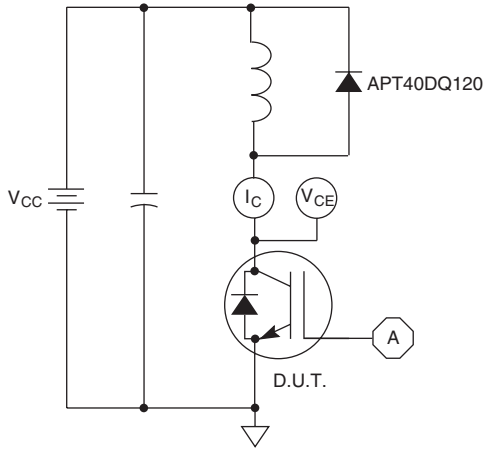

Figure 21, Inductive Switching Test Circuit
① Repetitive Rating: Pulse width limited by maximum junction temperature.
② For Combi devices, I_{ces} includes both IGBT and FRED leakages
③ See MIL-STD-750 Method 3471.
④ E_{on1} is the clamped inductive turn-on energy of the IGBT only, without the effect of a commutating diode reverse recovery current adding to the IGBT turn-on loss. Tested in inductive switching test circuit shown in figure 21, but with a Silicon Carbide diode.
⑤ E_{on2} is the clamped inductive turn-on energy that includes a commutating diode reverse recovery current in the IGBT turn-on switching loss. (See Figures 21, 22.)
⑥ E_{off} is the clamped inductive turn-off energy measured in accordance with JEDEC standard JESD24-1. (See Figures 21, 23.)